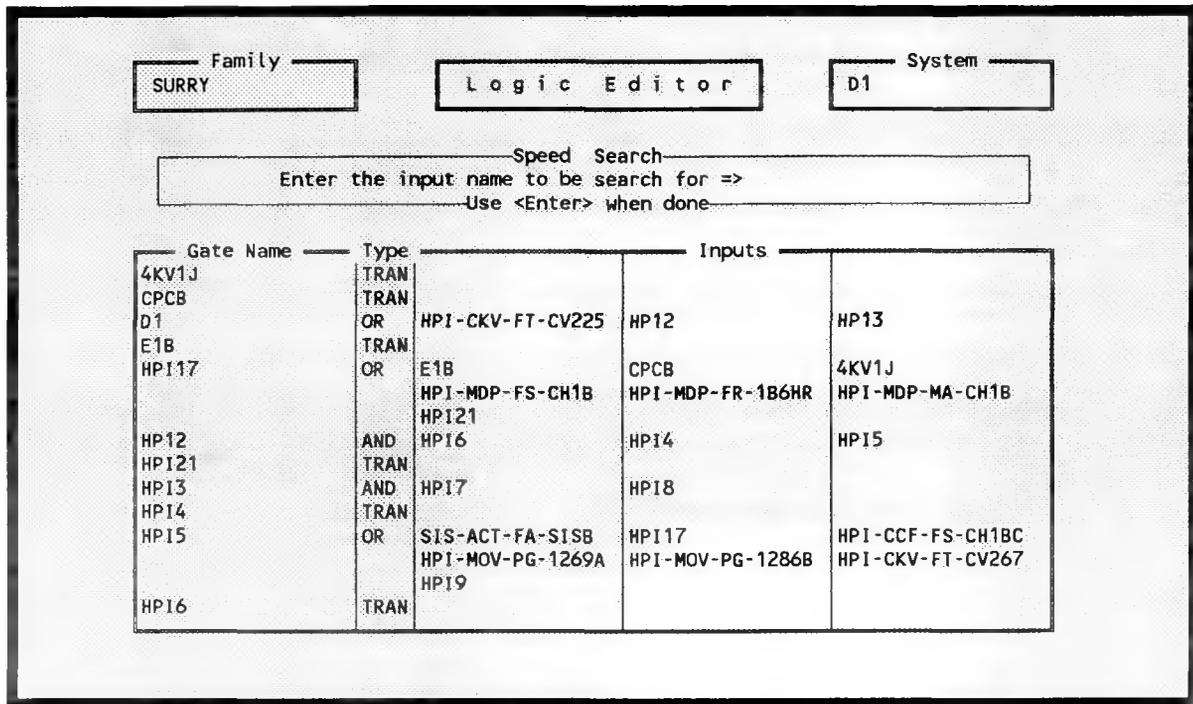

Figure 122. Speed search option.
5.6.2.10 Search. This option allows you to perform a speed search. When you invoke this option, Figure 122 will be displayed. Enter the name to be located. As you start entering characters, the search will begin. If no record is found, the message **Input not found!!** will be displayed, and you will be returned to the Logic Editor Display.